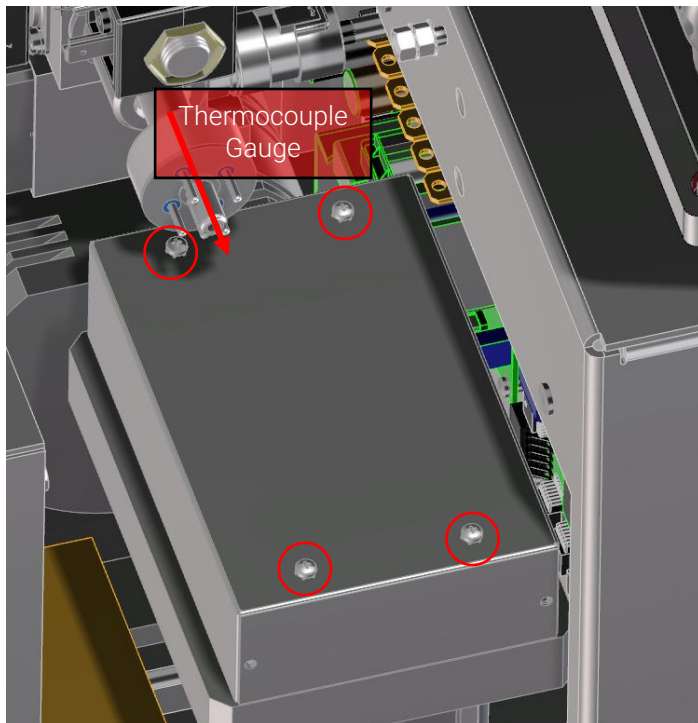
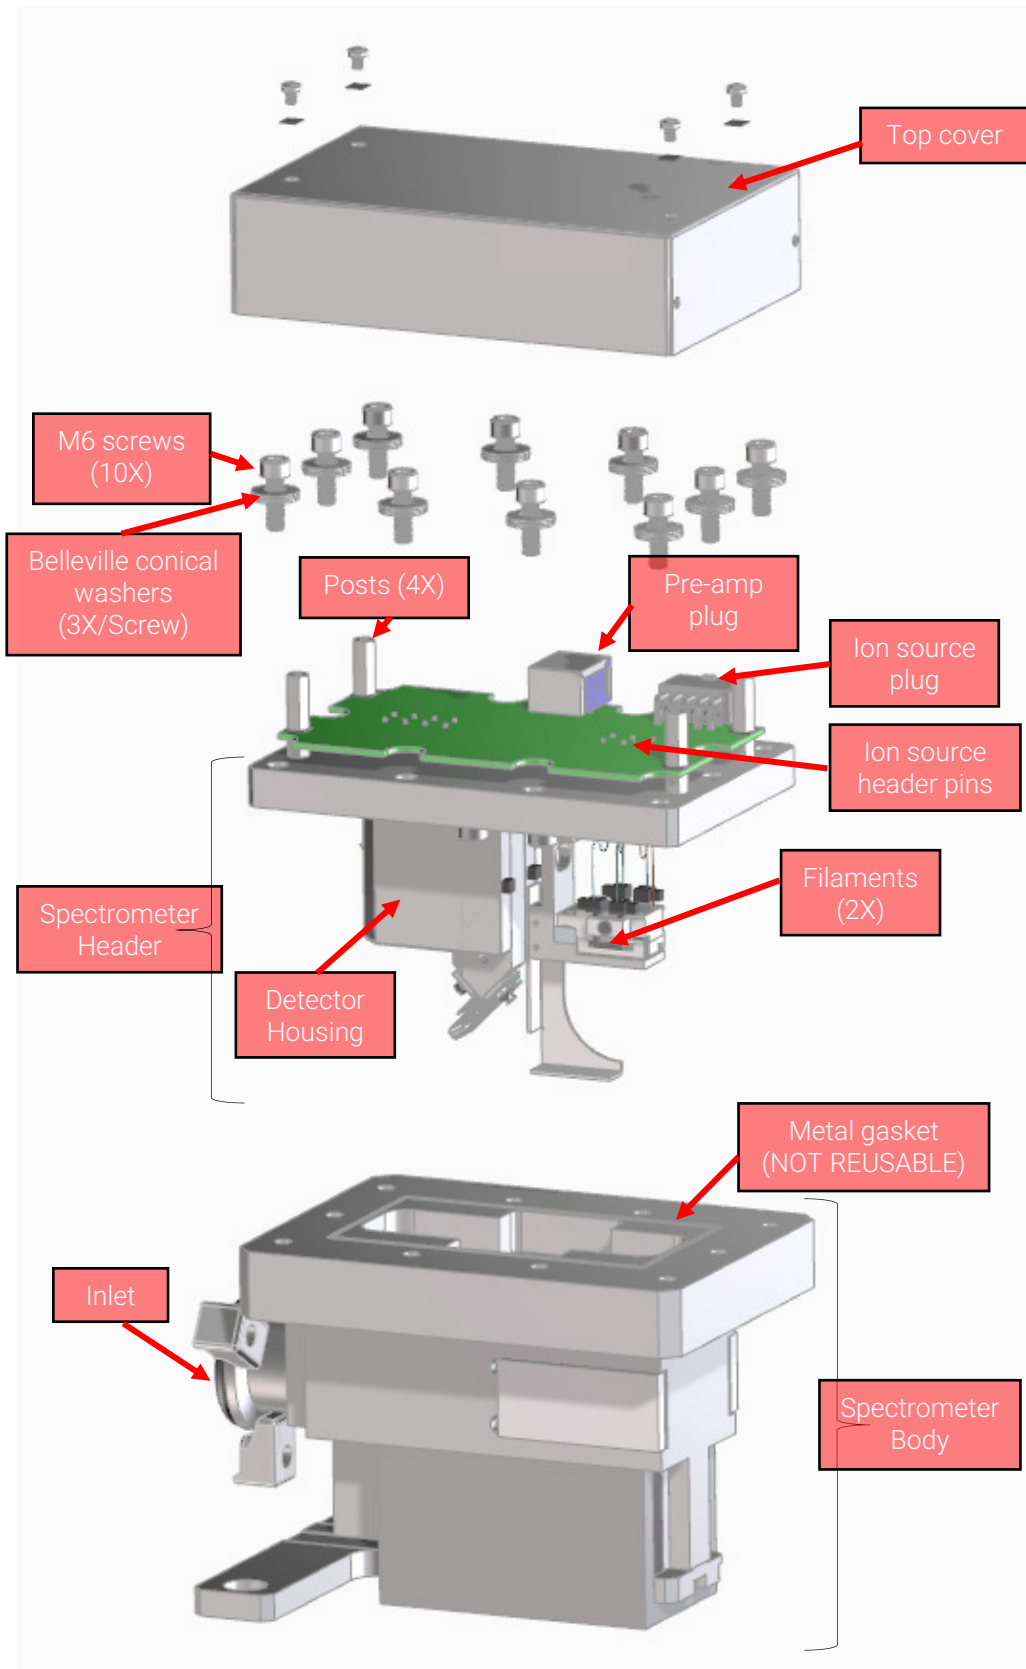

Figure 2-2. Spectrometer access
Figure 2-3. Spectrometer exploded view
5. To remove the spectrometer top cover, it may be necessary to first pull straight out the thermocouple gauge (shown in Figure 2-2 with the red arrow. It is shown without the outside black plastic cover). Leave the thermocouple gauge connected to its wiring. Use an M3 Phillips head screw driver to remove the four screws securing it. The screw shown in the top right of Figure 2-2 will be securing a grounding strap. Leave the ground strap hanging from the leak detector frame. Disconnect the two electrical cables plugged into the spectrometer board, the pre-amp RJ45 style connector on the turbo side of the spectrometer, and the ion source multi-pin connector (Cables not shown for clarity: refer to Figure 2-3). Remove the top cover, set aside with the screws.
Refer to Figure 2-3 for disassembly of the spectrometer header.